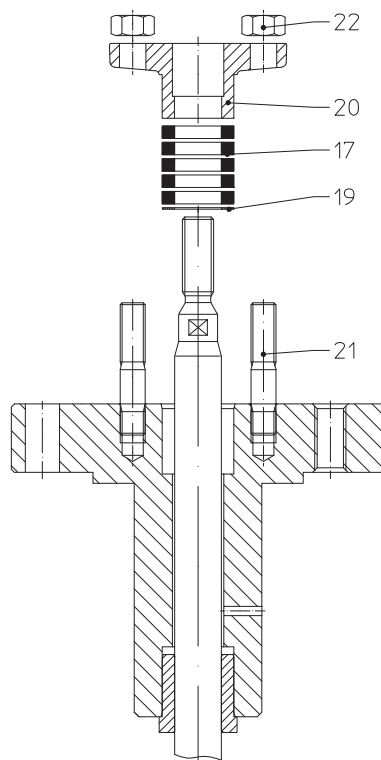

Fig. 7: Stuffing box packing
- Insert the new packing ring as shown in the Fig. 7.